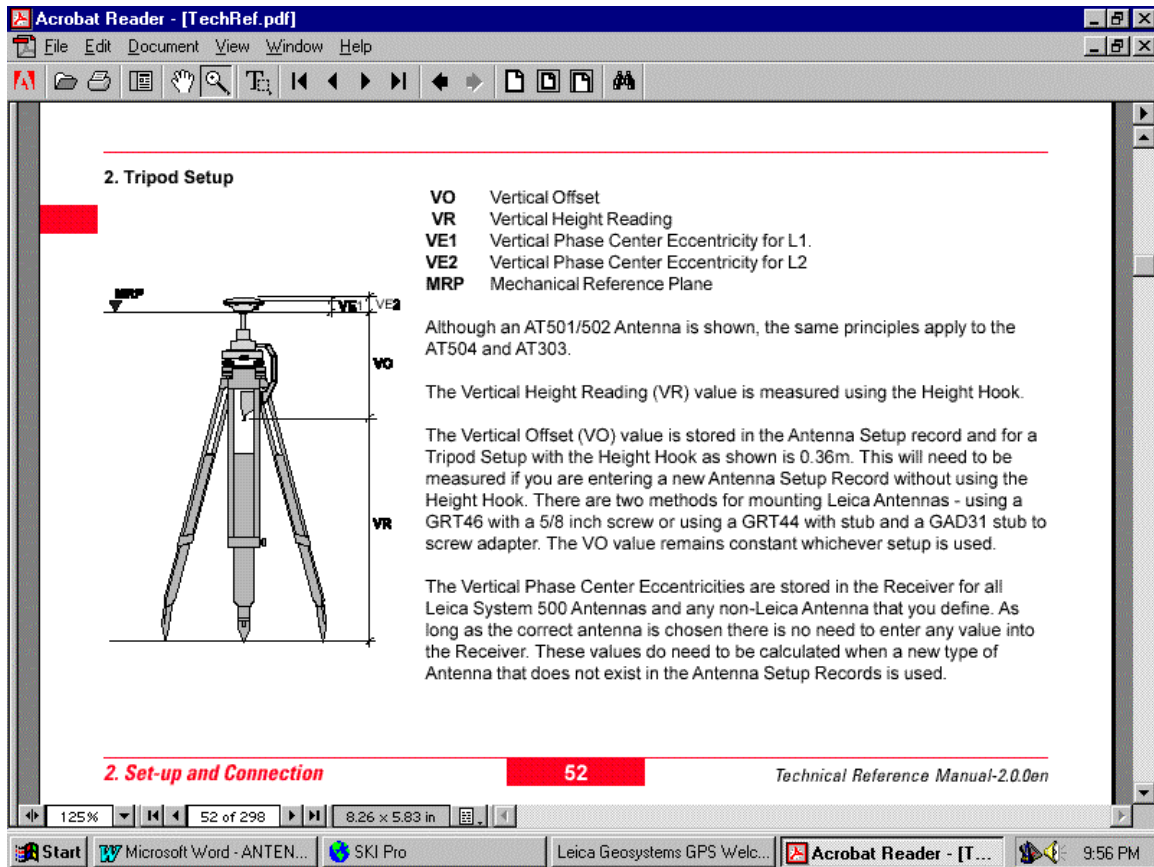

Figure 2: Relationships between Vertical Reading, Offset and Phase Center Locations for an AT502 Antenna set up on a Tripod
System 500 antenna heights and phase center locations are handled as per the different antenna types, setups, MRP locations with their corresponding L1 and L2 vertical phase center calibration values. These values consist of the Vertical Reading (VR) entered by the user, Vertical Offset (VO) corresponding to a specific setup such as: Tripod, Pillar or any other setup with L1 and L2 Vertical Eccentricities (VR1 and VR2 respectively). Figure 2 illustrates the Vertical Reading (VR) from the height hook, Vertical Offset (VO) for the Tripod setup and Vertical Phase Center Eccentricities (VE1 and VE2) with respect to the AT502 MRP.